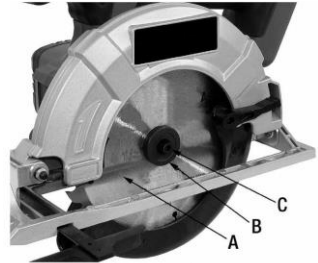
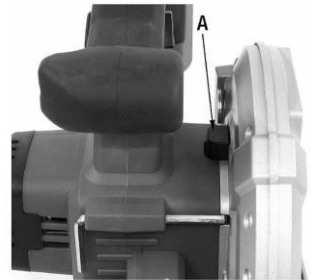

Figure 5
Figure 6
Note: The first time the blade cap screw (C) Fig.5 is removed from saw without a blade installed, it may be necessary to place the blade hex. key on the cap screw head and tap it sharply in the counterclockwise direction.
Retract lower blade guard and position the blade (A) Fig.5 and outer washer (B) on the saw arbor shaft. Make sure the large surface of outer washer (B) is toward the blade. Press the spindle lock (A) Fig.6 to lock the arbor shaft. Tighten blade cap screw (C) Fig.5 securely using the supplied hex. key.